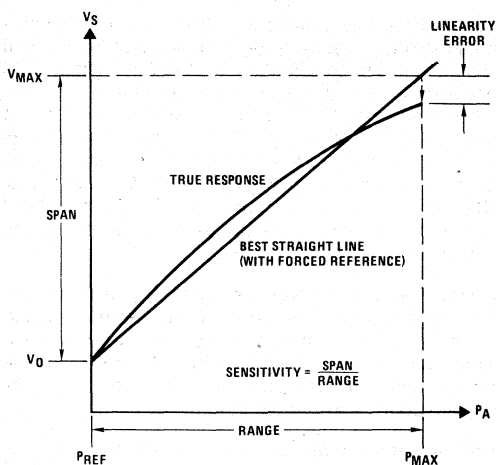

FIGURE 2
*Figures 2* through *5* show four operating configurations in addition to those presented in the data sheet.
slight amount of AC hysteresis (50mV) at the beginning of the decision cycle, but let it decay away to an acceptable accuracy before the decision is actually recorded in the SAR. The approximate decay time is  $(5) \times (10k + 1k) \times (100pF)$ , or 5.5 microseconds (see *Figure 2*).
For those applications using supply voltage other than 10V, say 5V, and if 50mV initial hysteresis is to be maintained, the 200k $\Omega$  ( $R_A$ ) resistor in *Figure 2* should be changed to 100k $\Omega$  based on the relationship:
To simplify our model, we first divide the error sources into 2 groups: those that are dependent on applied pressure and those that are not. The inherent linearity (and careful design) of National's hybrid IC transducers allows us to do this very simply. As shown in Figure 2, the response is fitted to a *best straight line* (BSL) that intersects the true response at the reference pressure. This is called a *BSL with forced reference*. As a result, the output signal  $V_S$  is given by: